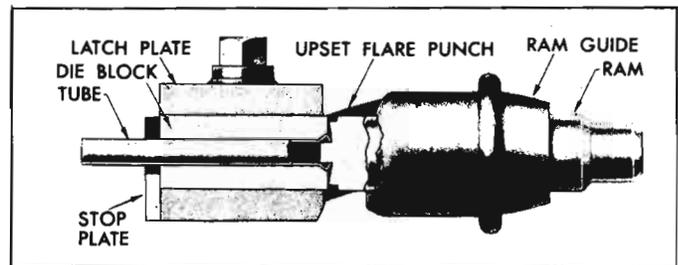

Fig. 5-11—Flaring Operation—First Flare
6. Using the supplied wrench, draw the latch plate nuts down tight to prevent the tube from slipping. Tightening the nuts alternately (beginning with the nut at the closed hole in the plate) will prevent distortion of the plate. Remove the punch and the ram. Now reverse the punch and put it back into the tool body. Install the ram and tap it lightly until the face of the upset flare punch contacts the face of the die blocks (fig. 5-11). This completes the first operation. Remove the ram and the punch.